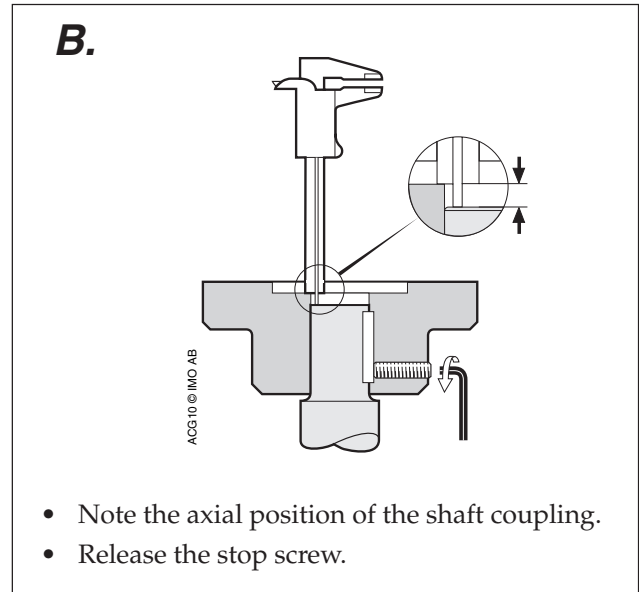

Fig. 7
- Fit the shaft coupling back into place (see fig. 7 and 8) in the same way used when fitting the ball bearing.